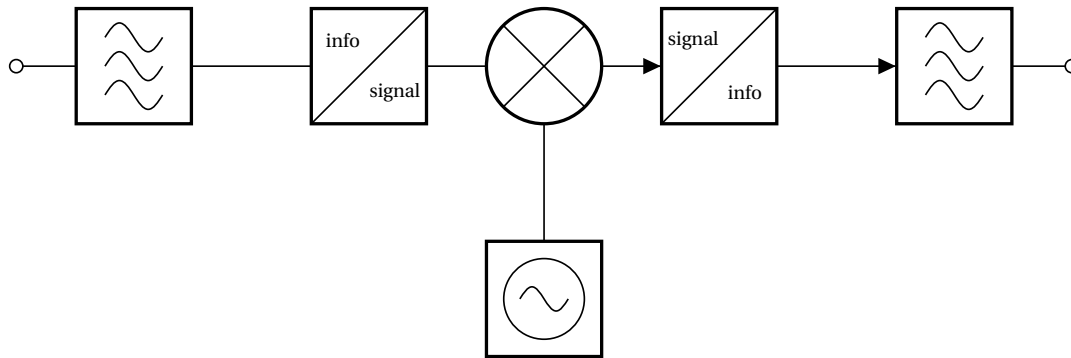

Figure 1: A schematic view of the source, message, channel, receiver model of communication.
One can find a schematic view in Figure 1. Our implementation of this model will be based upon the following building blocks that will be detailed next:
- (e) Identify the different entities of Figure 1 in this communication process.